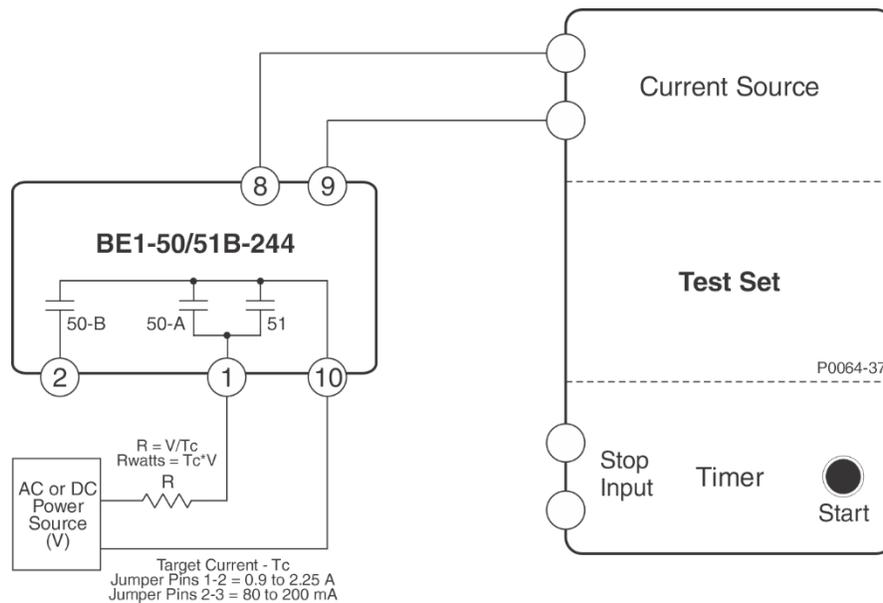

Figure 5-3. Target Indicator Test Setup
- a. Connect the test setup shown in Figure 5-3.